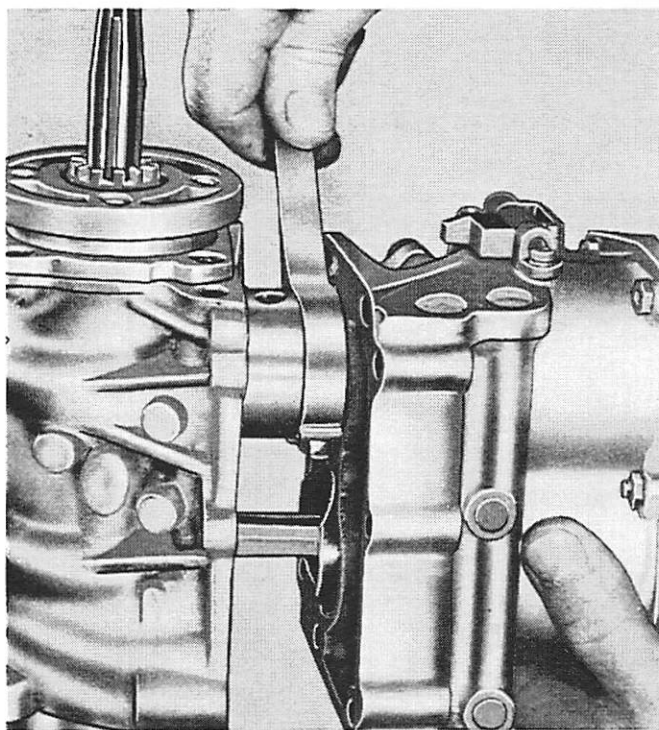

Figure 16. Compressing Piston Rings
3. Place Piston Ring Compressor (91-24280) over piston rings, bottom cylinder. (Figure 16)